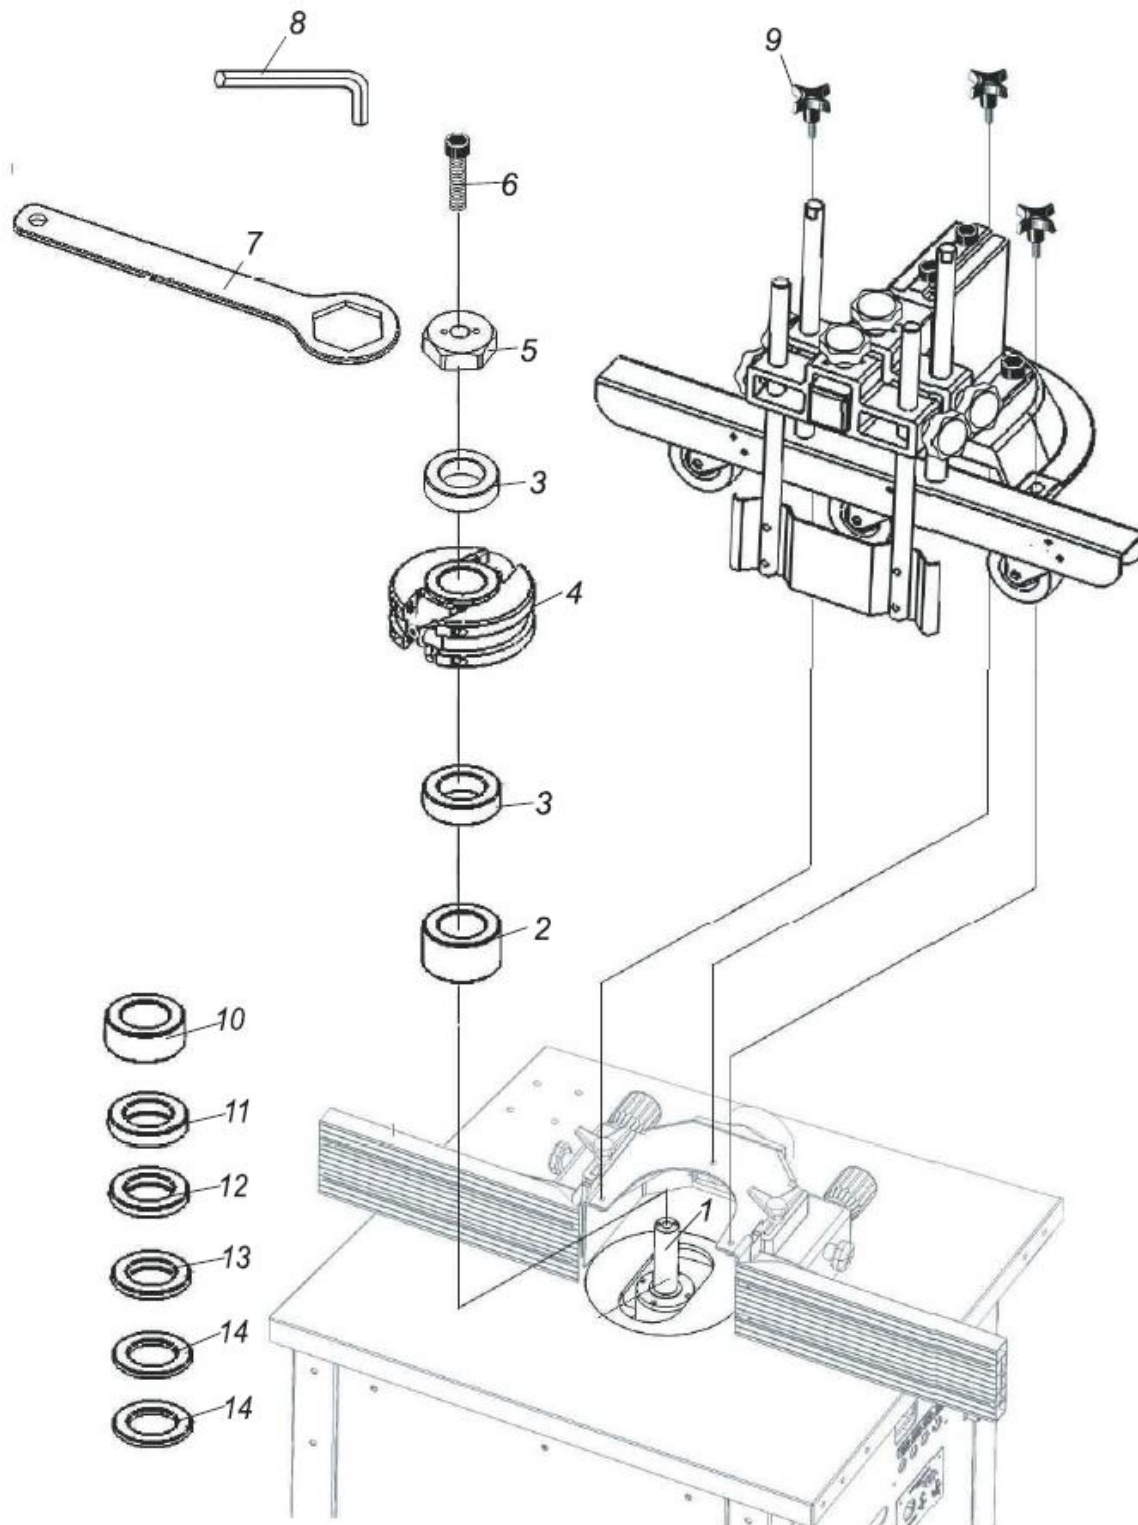
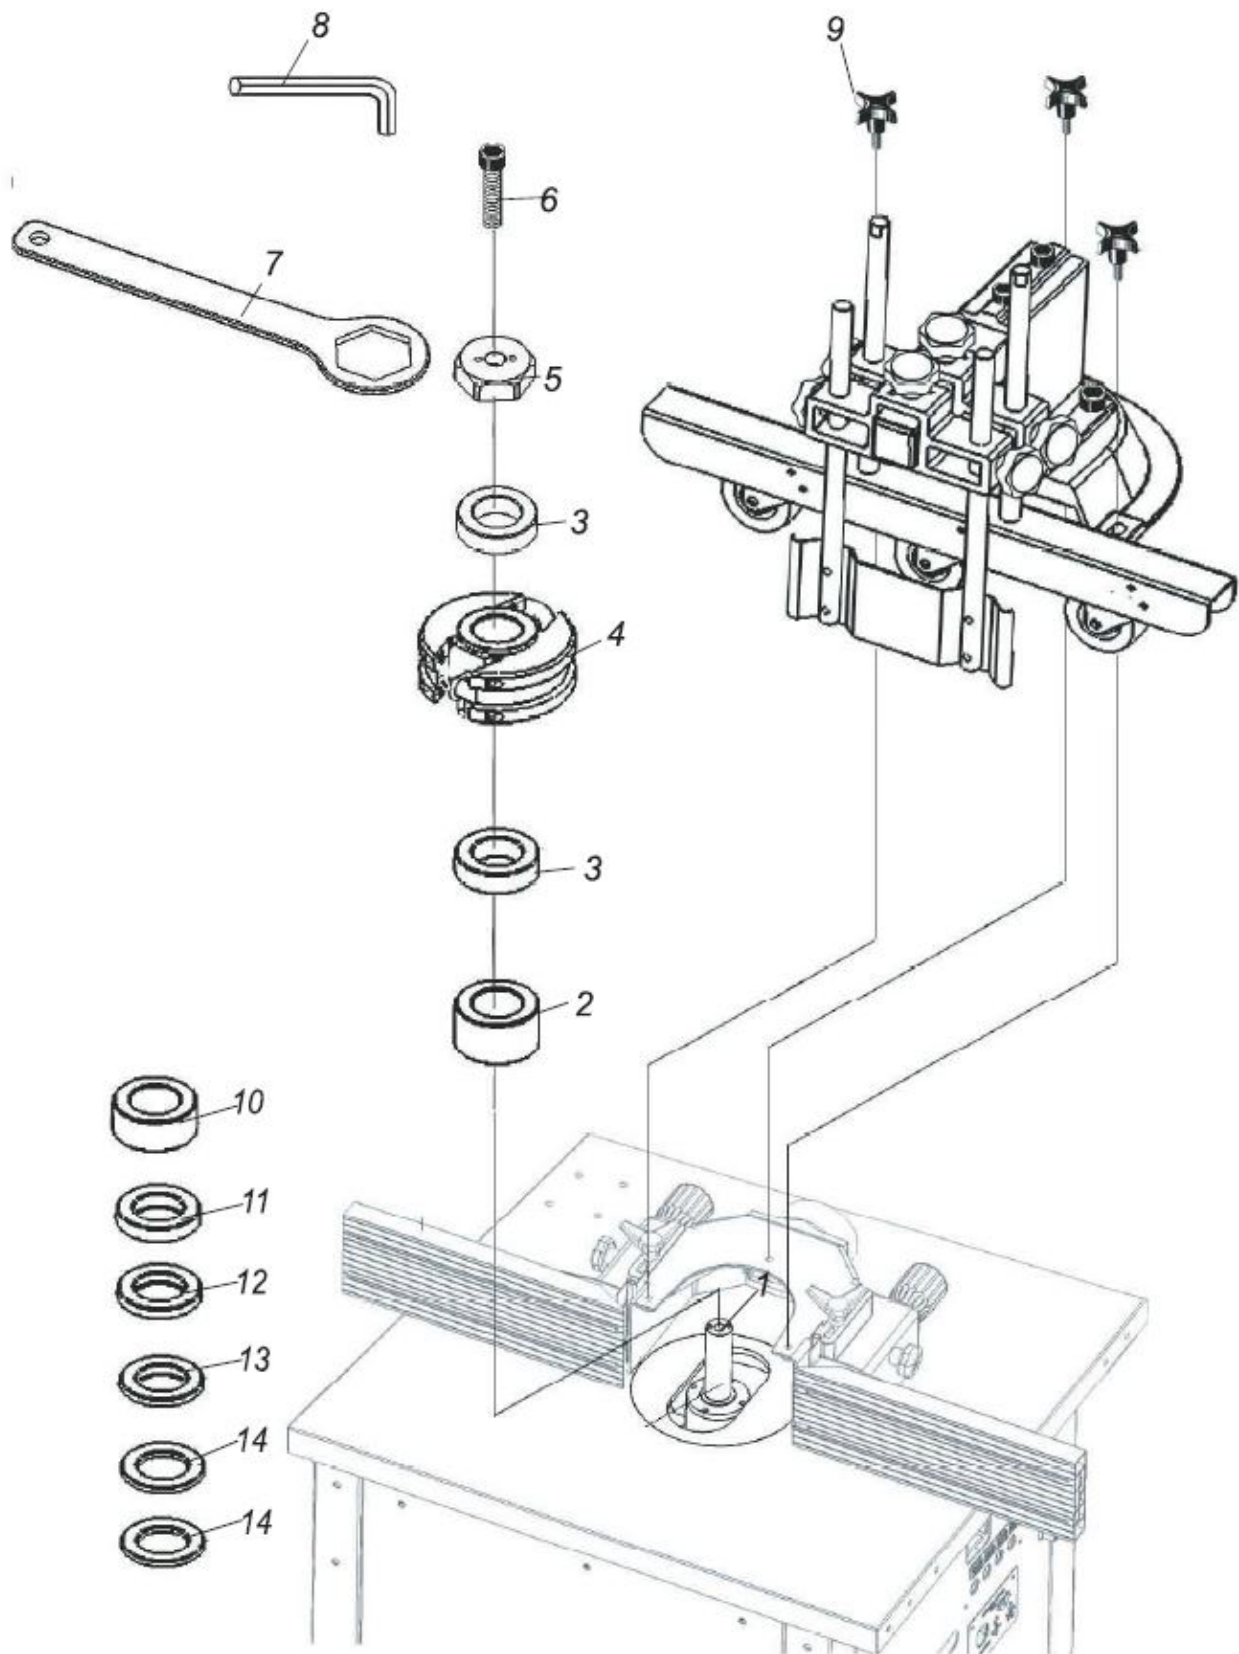

Fig. 38: Spare parts drawing 1 - Table router TF 190 E
Fig. 44: Spare parts drawing 1 - Table router TF 190 SE
The drive belt must be tensioned sufficiently using the tensioning lever (item 56, Fig. 38 or Fig. 44).